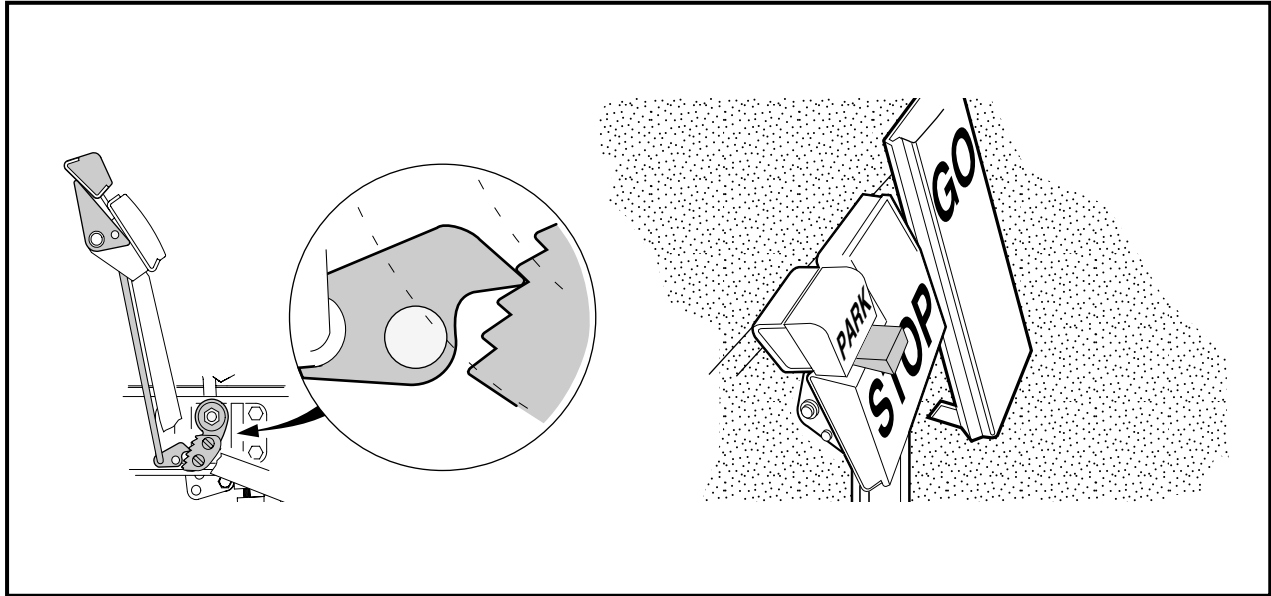

Figure 6-29 Set Park Brake and Insert Wedge
1. Set park brake in the third tooth of the ratchet. Place a wedge between the park brake pedal and brake pedal to prevent the park brake from disengaging while equalizing the brake cables (**Figure 6-29, Page 6-15**).